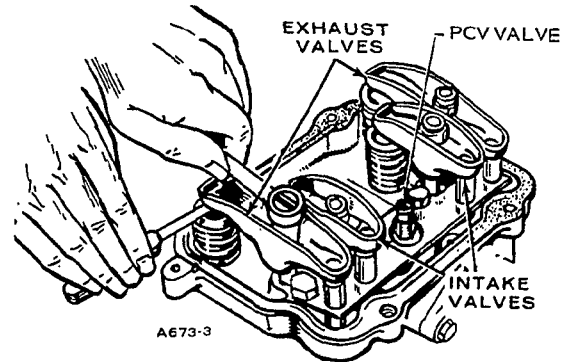

FIGURE 84. SETTING VALVE CLEARANCE
4. Using a feeler gauge, check the clearance between the rocker arm and the valve (see Figure 84). Increase or reduce the clearance until proper gap is established, adjusting with the locknut which secures rocker arm to cylinder head.